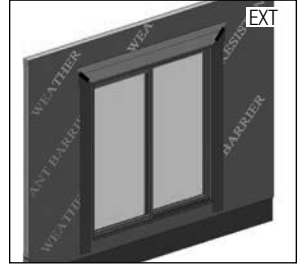

FIG. 20
- D) Flip down the top flap of the WRB. (Fig. 20)
- E) Tape the cut seams of the WRB. (Fig. 20)